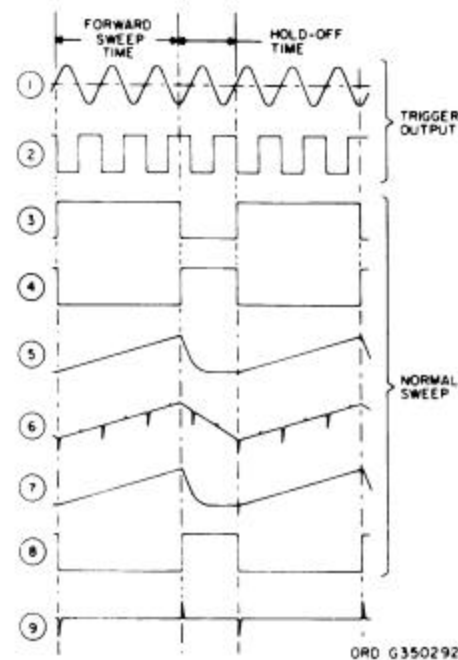

Figure 3-7. Triggering and normal sweep waveforms.
(1) Before going into a description of the delayed sweep circuitry (par. 3-14), let's briefly summarize the generation of the trigger pulse and sawtooth signals. The waveforms in figure 3-7 are used to cover the main points of preceding detailed description.
(2) The first waveform (assuming a sine-wave signal) shows the input signal that passes through the various